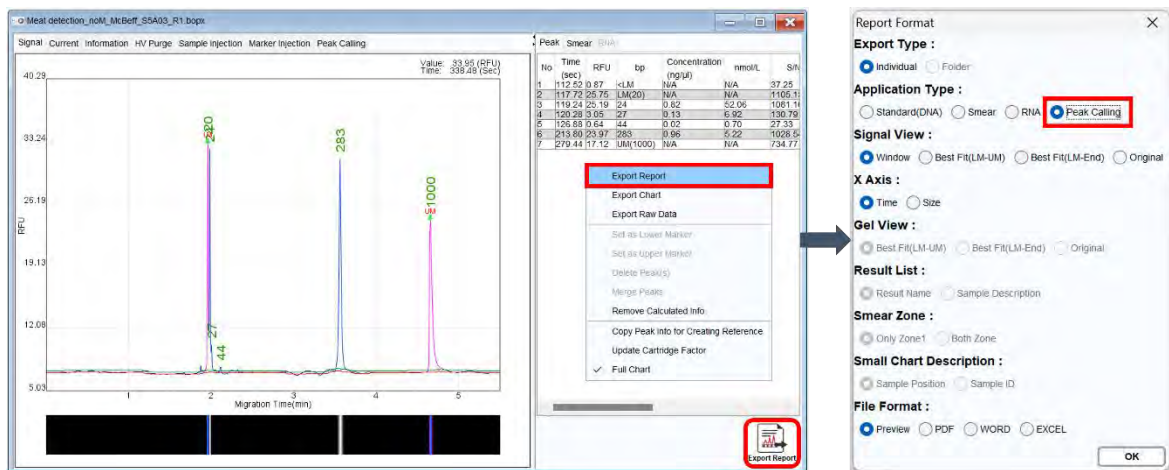

Figure 52 Loading Panel and Exporting the Report
6. Click the **Signal** tab to return. The software will automatically scan the peak signals. Click the **Show Size/Legend** button in the Toolbar to display the legend of the target peak. Right-click and select **Export Report** or click on the Export Report icon at the bottom to export the report. (Figure 52)